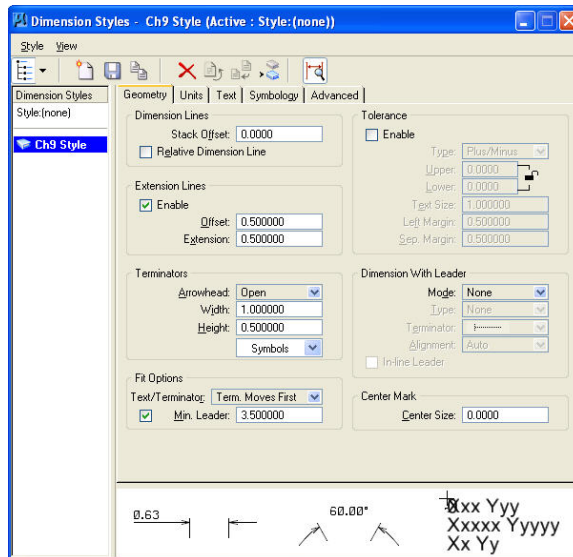

Figure P9–2a Dimension Settings box Geometry tab
- STEP 3:** Open the Dimension Settings box by selecting **Dimensions** from the **Element** drop-down menu. MicroStation displays the dimension settings similar to Figure P9–2a.
- STEP 4:** Set the dimension settings as shown in Figures P9–2a through P9–2d.